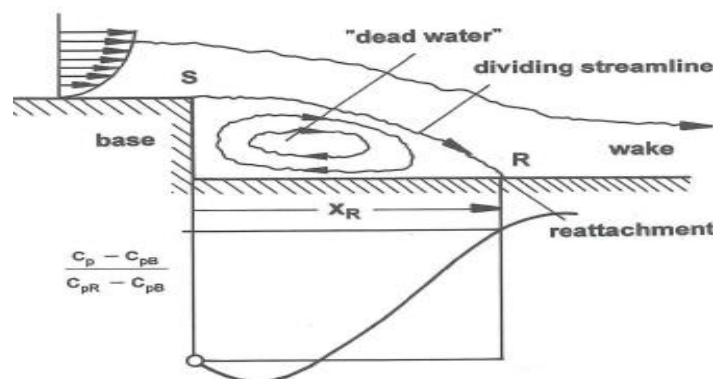

Fig.12: Flow field on a backward facing step of a car model [Hucho, 1998]
3. Flow field on a backward facing step of a car model (Fig.12).